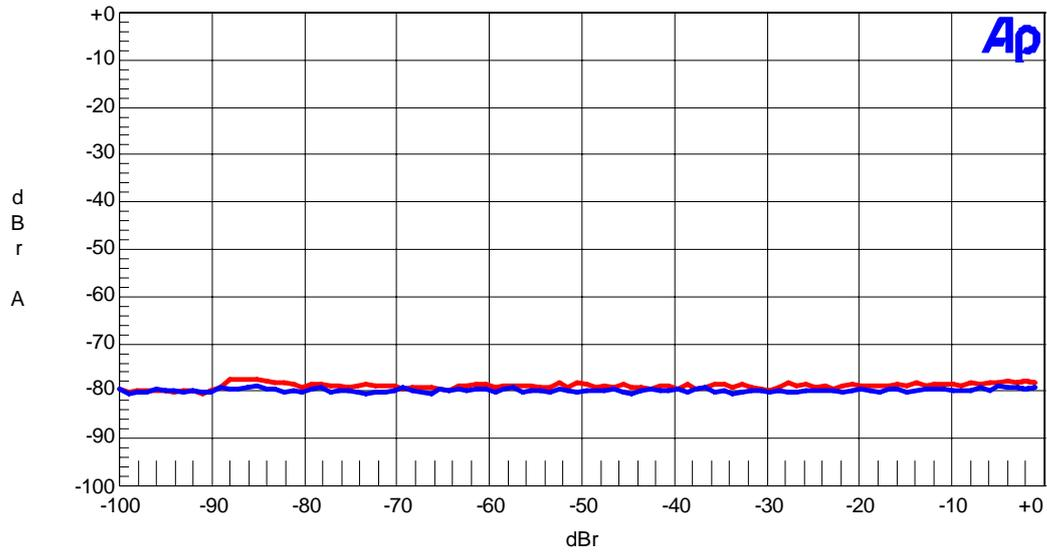

Figure. 9 Stereo mode THD + N vs. Input Level (fin=1kHz)
- Figure. 9 : THD+N vs. Input Level (1kHz)